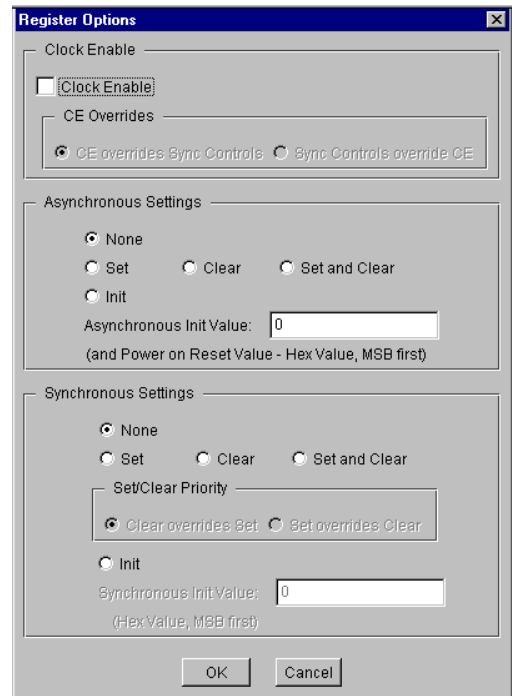

Figure 2: FD Register Options Parameterization
- **Register Options:** Clicking on this button brings up the Register Options parameterization screen (see Figure 2).
The Register Options parameterization screen for this module is shown in Figure 2. The parameters are as follows: